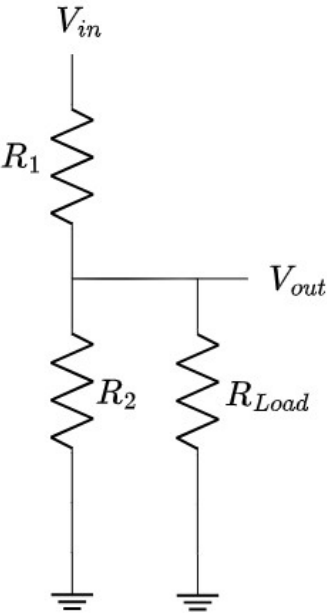

Figure BT-3-S1: Loaded Voltage Divider Circuit
3. Connect another resistor of $1\text{k}\Omega$ between V_{out} and ground to introduce a load as represented by Figure BT-3-S1. (Hint: This resistor should be at R_{A3} or R_{A4} .)